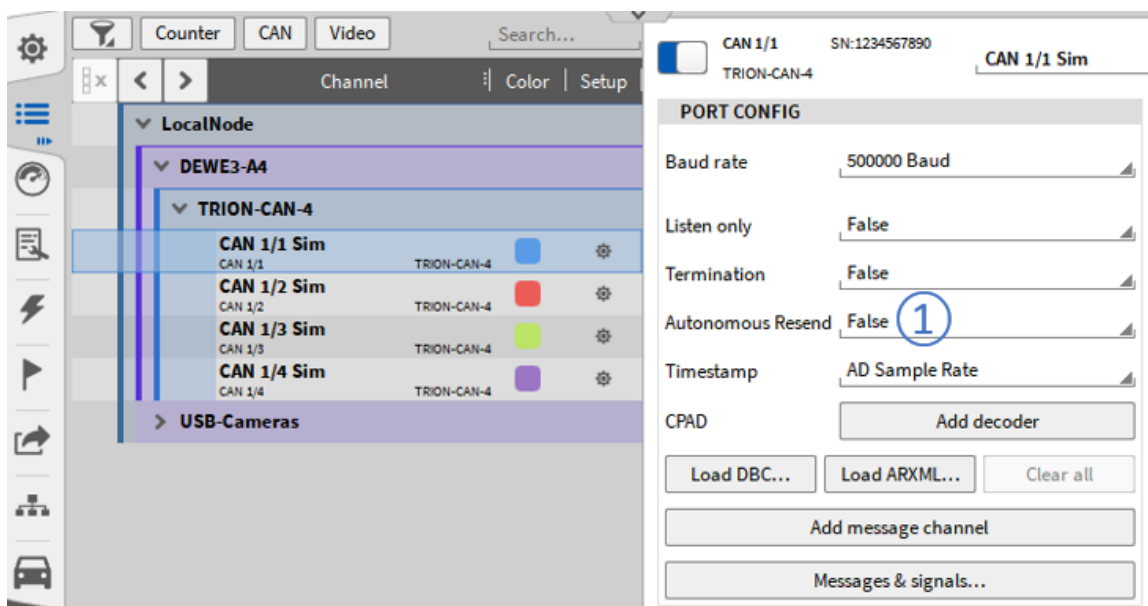

Fig. 7.208: Autonomous resend option
The Autonomous Resend option (see ① in Fig. 7.208) provides the following functionality for CAN buses which transmit data: